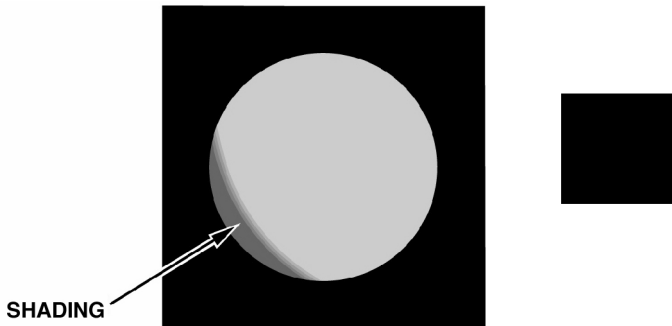

Figure 2-3. Shading.
(1) Shading. If shading is present, you will not see a fully circular image (see Figure 2-3). Shading is very dark and you cannot see an image through it. Shading always begins on the edge and migrates inward eventually across the entire image area. Shading is a high contrast area with a distinct line of demarcation. Return the MNVD to the maintainer.